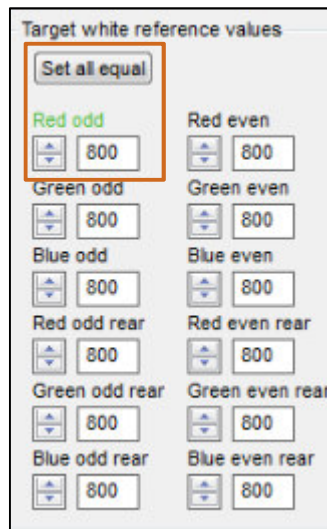

Figure 30: Setting the "target white reference values" in CST classified in front- and rear tab and the RGB part of these tabs.
- 3) Read the old “target white reference values” in CST (see Figure 30) and calculate the new input value by using the Equation 1 below.